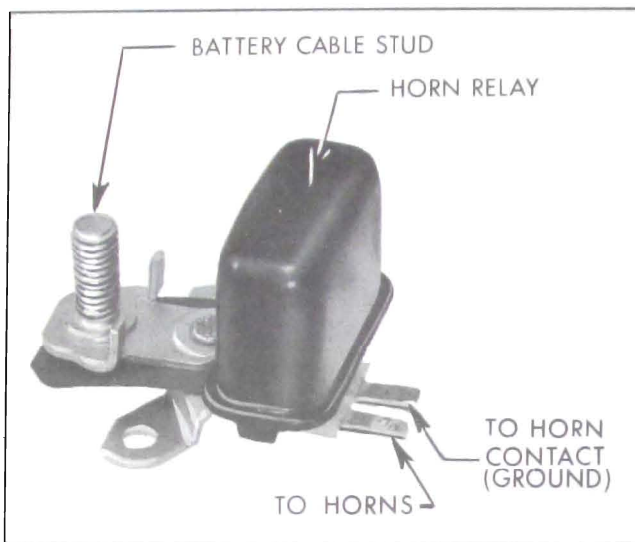

Figure 10-56—Horn Relay and Junction Block Assembly
3. If horns still do not blow when wire at mast jacket is grounded, unplug double connector from horn relay part of junction block assembly which is mounted on right fender skirt. See Figure 10-56. Then plug a known good relay and junction block assembly onto the connector and press battery terminal of new assembly against old junction block battery terminal stud for a source of current. Have helper try blowing horns. If horns blow, original relay is defective and must be replaced.